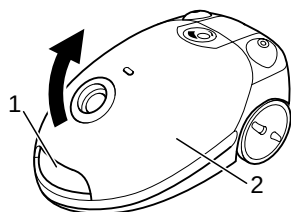

Fig. 17
1. Open the dust chamber cover (Fig. 17/2) by flipping it up using the release button (Fig. 17/1).